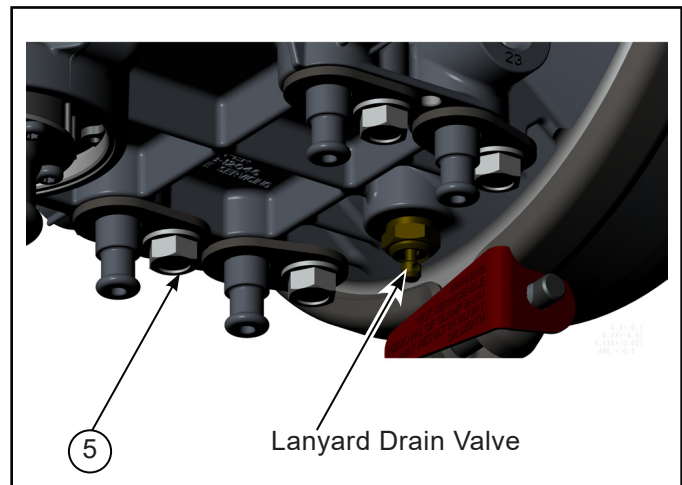

Figure 2 - CPPV Disassembly
2. See *Figure 2*. Drain all reservoirs including the air dryer purge reservoir to 0.0 psi (0.0 kPa). Use the lanyard drain valve to drain the purge reservoir.